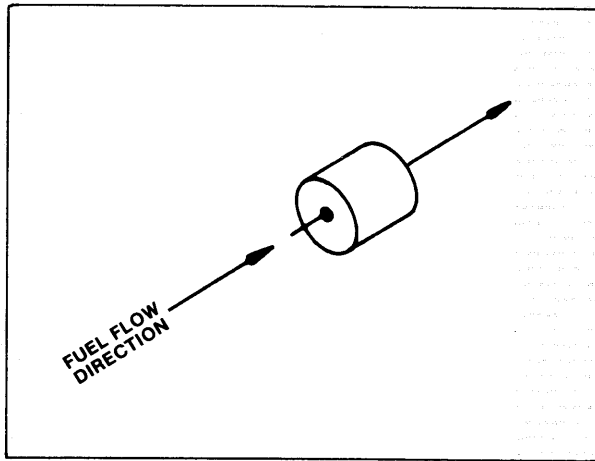

Figure 8—Proper Installation of Check Valve
- A. If check valve is to be replaced, install check valve with small diameter hole end against direction of fuel flow. See figure 8.